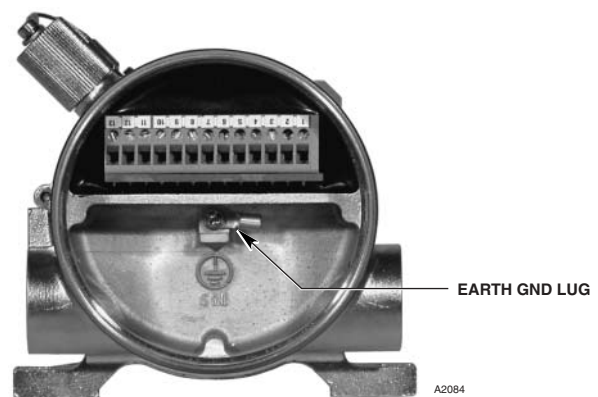
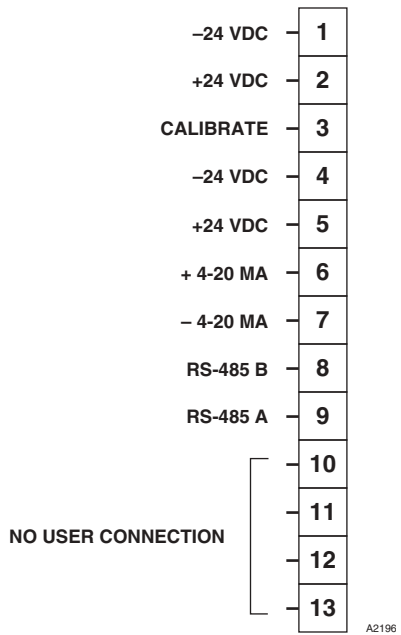
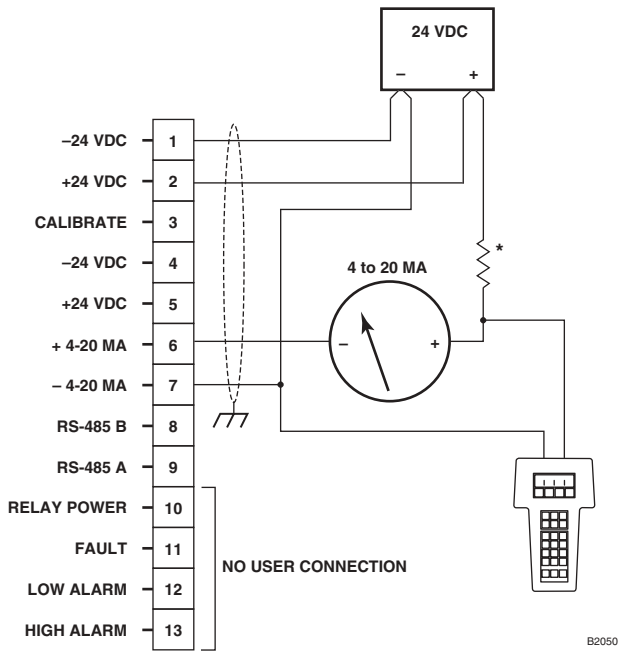
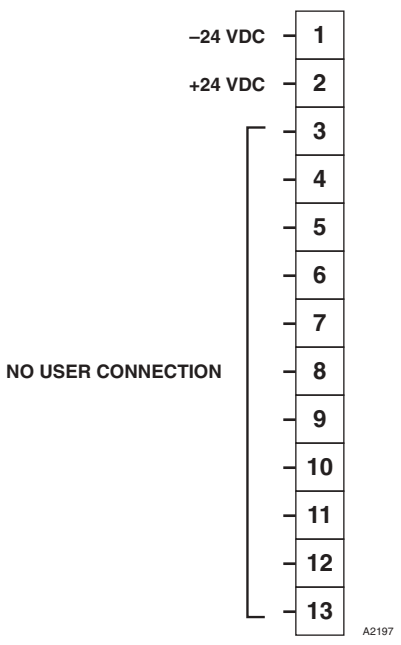

Figure 7—Terminal Strip Located Inside Wiring Compartment
Figure 8—Receiver Wiring Terminal Identification
Figure 10—Detector Wired for Non-Isolated 4 to 20 ma Current Output (Sinking)
Figure 9—Transmitter Wiring Terminal Identification
Figure 7 shows the wiring terminal strip located inside the detector's integral junction box. Figure 8 shows the wiring terminal configuration for the OPECL receiver. Figure 9 shows the wiring terminal configuration for the OPECL transmitter. (The transmitter requires only operating power.) Figures 10 through 13 show the 4 to 20 mA output of the OPECL receiver in various wiring schemes. Figure 14 shows the OPECL wired to a Model R8471J Controller.
- The HART communicator must include the Device Descriptor (DD) software menu for OPECL. The use of a HART communicator without the proper DD's may establish generic mode HART communication, but will not allow Full Alignment to be completed. Refer to the HART Appendix for additional information.
- For proper HART communication to occur, a 250-500 ohm resistive load is required in the 4-20 mA signal loop (as shown in Figures 10 to 13).